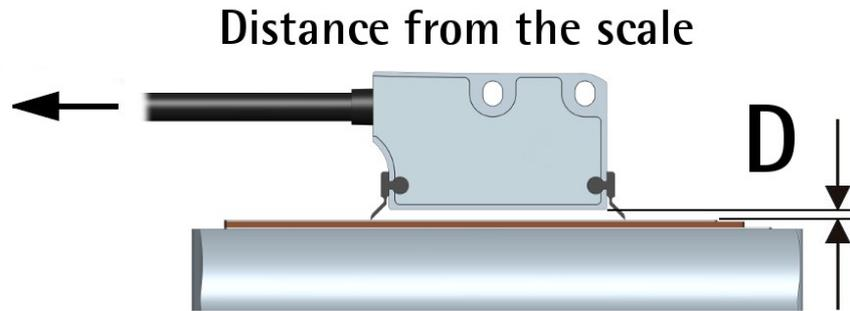
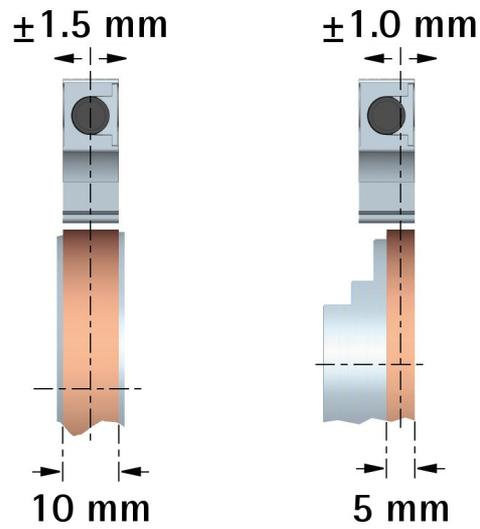
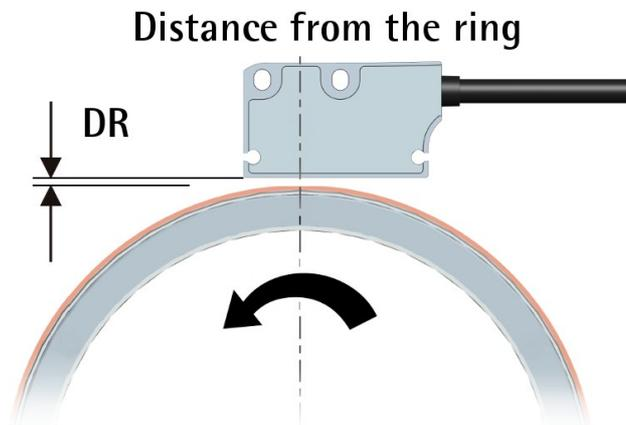

Figure 1 - Encoder / tape mounting gap
Figure 5 - Sensor / ring alignment
Figure 6 - Sensor / ring mounting gap
You can mount the readhead in both directions over the tape. The arrow in Figure 1 indicates the **standard counting direction** (the rising edge of A signal leads the rising edge of B signal) when the sensor moves in the direction indicated by the arrow; further information in the "4.6 Counting direction" section on page 23.
The distance D (see Figure 1) between the bottom of the encoder and the MTI magnetic scale must be as follows:
When the sensor is installed on magnetic rings having a 10 mm / 0.4" wide magnetic surface, line up both the sensor and the ring on the central axis. When magnetic rings having a 5 mm / 0.2" wide magnetic surface are used, line up the sensor and the ring as shown in Figure 5; please consider that the incremental sensor is located laterally in the sensing head. With 5 mm rings the mounting direction of the ring makes no difference (but ascertain that the sensor is properly aligned on the correct side!).
To learn about the mounting tolerances refer to the tables below as well as to Figure 5 and Figure 6.
The positive counting direction (the rising edge of A signal leads the rising edge of B signal) is achieved when the sensor moves on the tape according to the arrow shown in Figure 1; or when the ring turns according to the arrow shown in Figure 6. For further information see the "4.6 Counting direction" section on page 23.
3.11 Optional cleaning wipers (Figure 1)
The **standard counting direction** (the channel A leads the channel B) is to be intended with sensor moving as shown in Figure 1 in a linear application; with ring turning as indicated by the arrow in Figure 6 in a rotary application.
By default the phase relationship between A and B channels is so that the rising edge of A channel leads the rising edge of B channel when the encoder moves in the direction shown by the arrow in Figure 1 in a linear application; or when the ring turns as indicated by the arrow in Figure 6 in a rotary application (see the "4.5 ABO, /ABO output channels" section on page 23). Thus the counter in the subsequent electronics will get a count up. It cannot be changed.